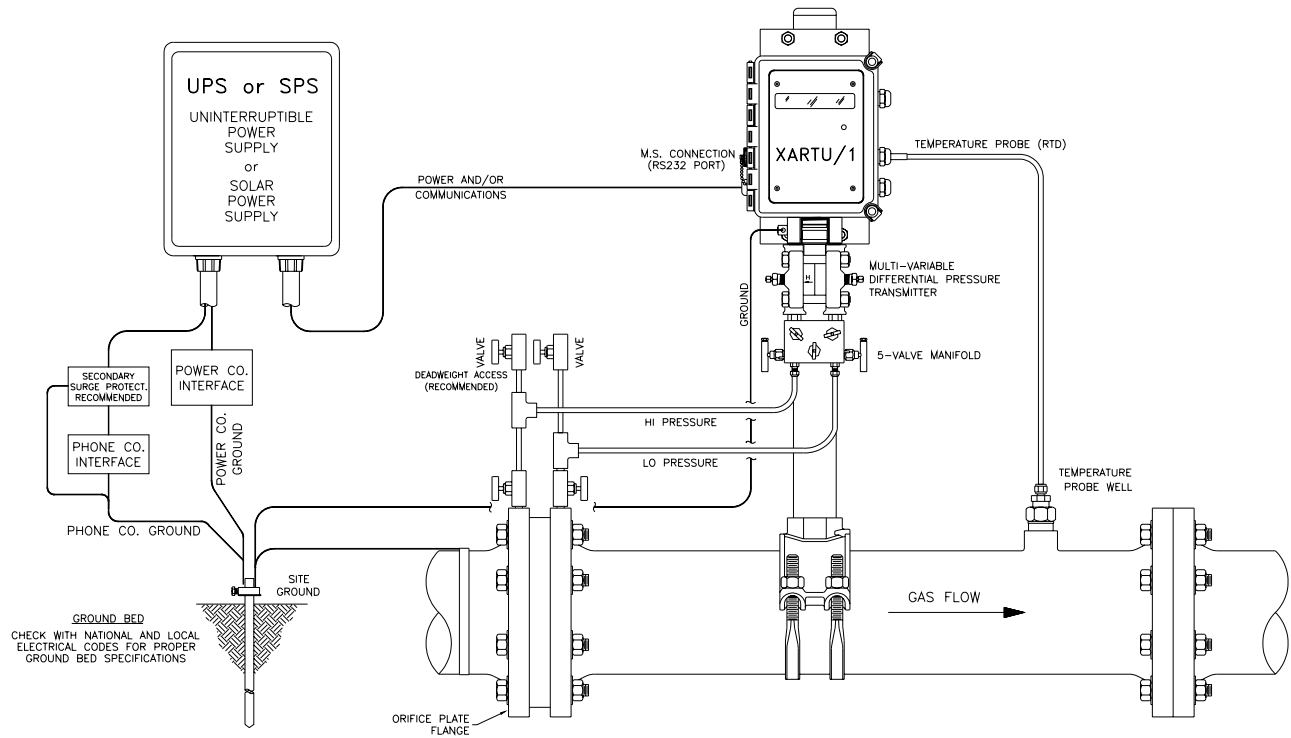

Fig. 9 – Typical Orifice Run Application for Gas Using the Multi-Variable Differential Pressure Transmitter
The XARTU/1 may be adapted to calculate the flow rate in orifice run applications when used with one of the optional differential pressure transmitters. The DP transmitter may be located at the orifice site and wired over to the XARTU/1, or may be mounted directly to the RTU and tubed over to the run (see Figs. 8 & 9). A second DP may be wired in for dual run applications. In conjunction with static pressure transmitter(s) and temperature probe(s), accurate and corrected flow calculations may be obtained. Eagle Research has two models of DP transmitters available: The Differential Pressure (DP) and the Multi-Variable Differential Pressure (MVDP). The DP model, shown in figures 8 and 8a, works in conjunction with a separate external static pressure transmitter mounted in the RTU. The MVDP model, shown in figures 9 and 9a, has an integral static pressure module, eliminating the need for a separately mounted one.